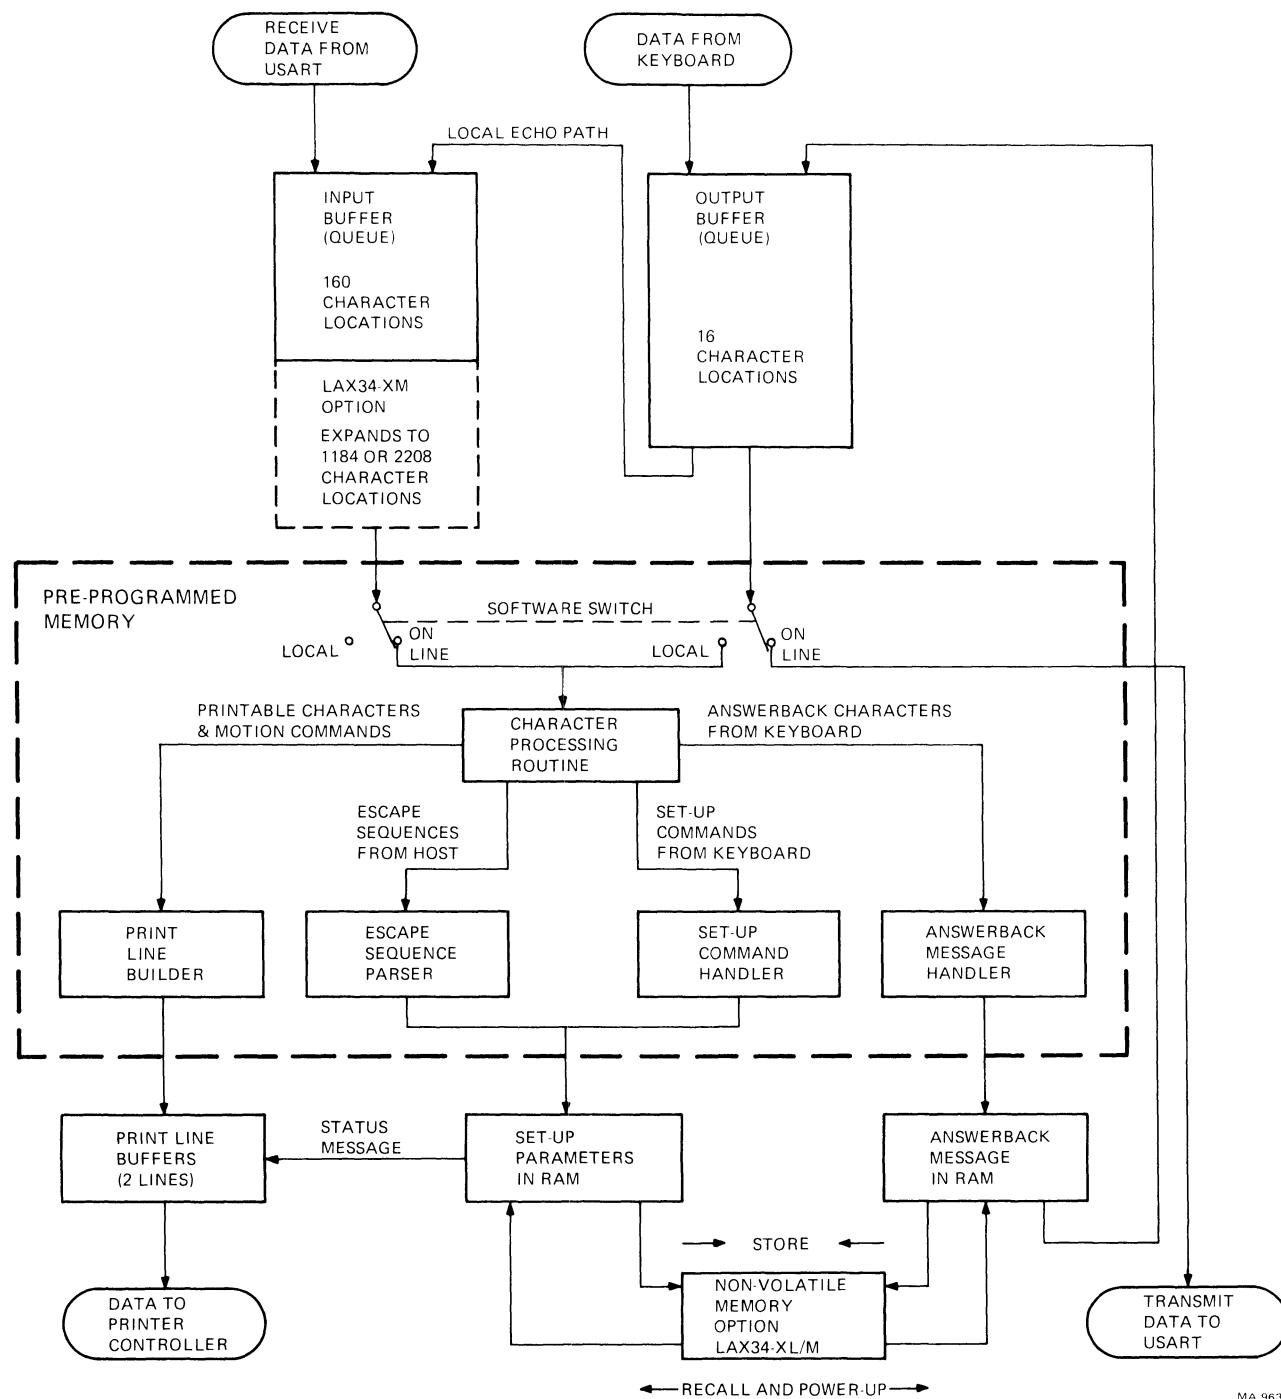

Figure 5-8 Internal Data Management
**5.4.2.5 Internal Data Manipulation** – Figure 5-8 shows graphically how input/output data is managed by the microprocessor. Data moved to or from the USART or keyboard passes through one or both of two areas in RAM memory called queues. There is an input queue and an output queue. Both queues are in effect first-in/first-out (FIFO) buffers. The input queue has a variable length (determined by SET-UP or escape commands) and may be 100, 1184, or 2208 characters in length. The 1184 and 2208 character queue (buffer) is available only when the LAX34-XM option is installed. The output queue has a fixed length of 16 characters.